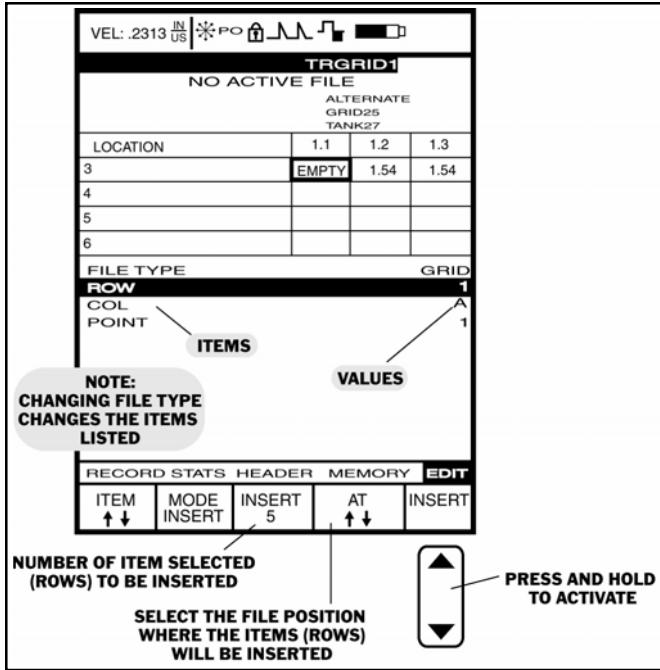

FIGURE 4-8—This is how the EDIT screen will look when the Insert function is selected. The Append screen will be very similar.
Step 3: Activate the EDIT Submenu (located in the DR Menu) by selecting it with  or  so that it's highlighted. Selections will appear across the bottom of the display screen including ITEM and MODE (Figure 4-8).